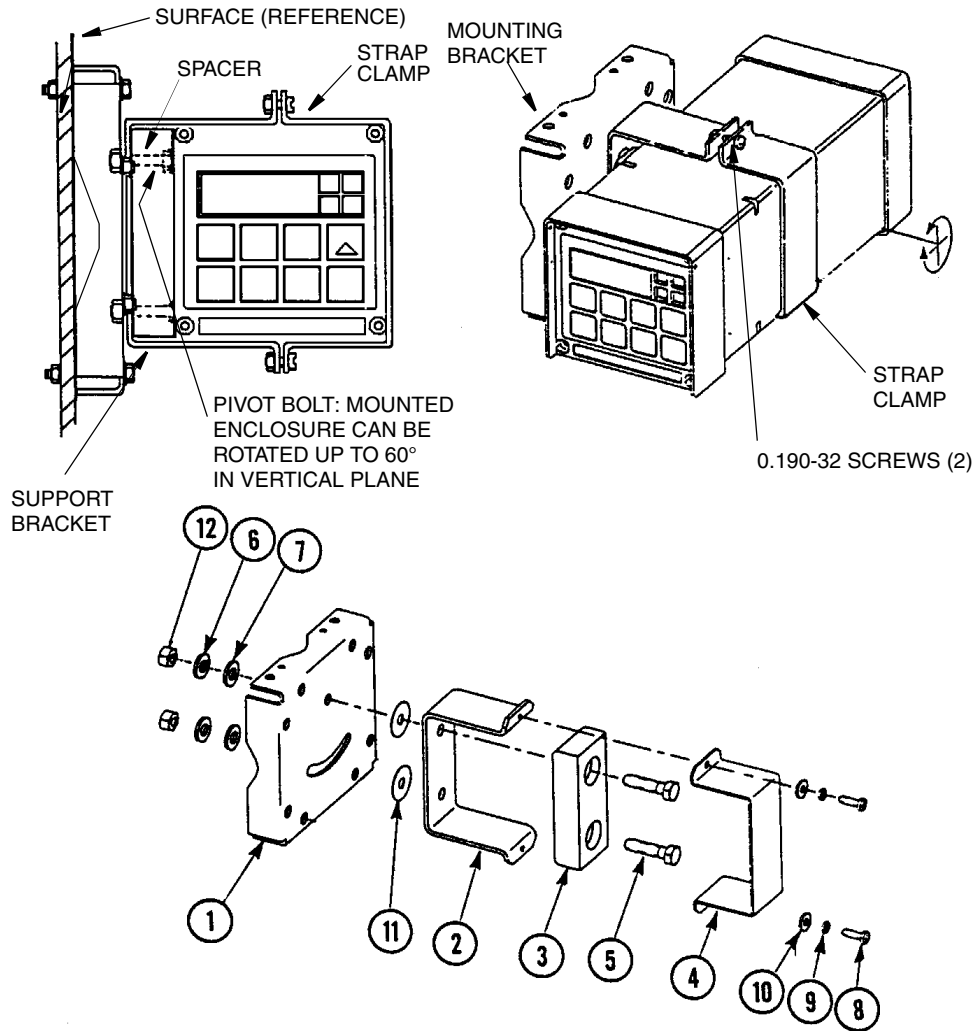

Figure 9. Metal Enclosure - Fixed Mount
2. Referring to Figure 9, use mounting bracket (1) as template for drilling four holes into mounting surface. Notice that holes in mounting bracket are 8.74 mm (0.344 in) in diameter. Do not attach mounting bracket to surface at this time.
- a. Place hex bolts (5) through spacer (3) into support bracket (2).
- b. Slide nylon washers (11) over bolts (5).
- c. Slide bolts through universal mounting bracket (1) and fasten assembly together with hardware designated 7, 6, and 12.
- d. Attach universal mounting bracket (1) to wall.
4. Slide Analyzer into support bracket and slide strap clamp (4) onto Analyzer. Using two screws, nuts, and washers, attach strap clamp to support bracket to secure Analyzer.